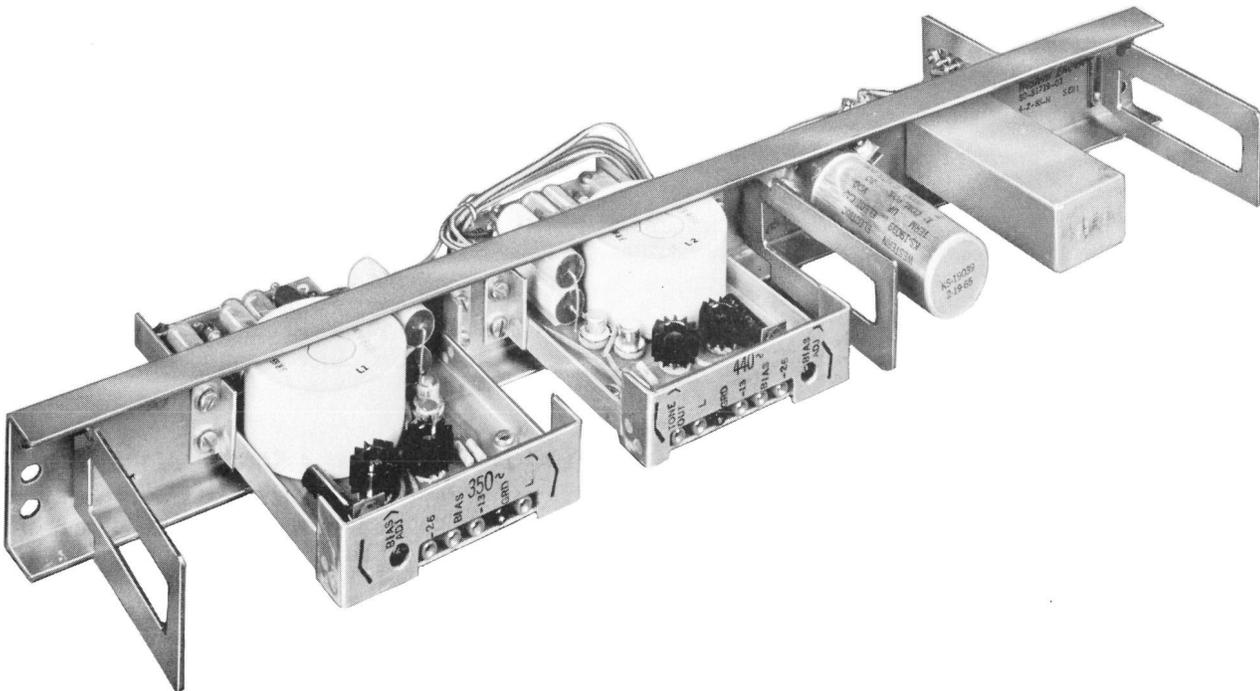

Fig. 9—404C Tone Generator, Front View (Covers Removed)
- One 404C tone generator (Fig. 9)